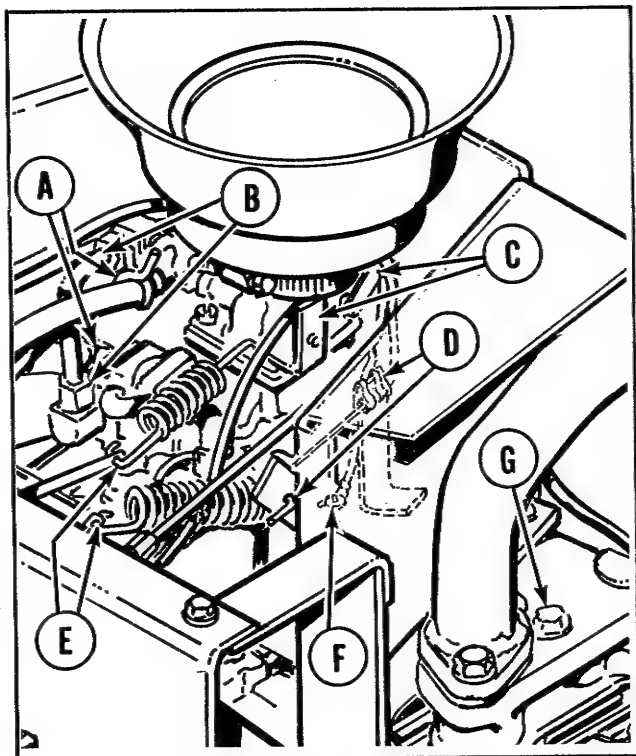

Figure 40. Engine viewed from right side of tractor.
3. See figure 40. Disconnect the two fuel hoses (A) at the carburetor and fuel pump and the fuel line (B) between the carburetor and fuel pump.
4. Disconnect the choke cable (C) at the carburetor and the speed control cable (D) and the two governor springs (E) at the governor.
5. Remove screw (F) which holds the ground wire from the breaker point box to the manifold.
6. Use a 9/16" wrench to remove the two manifold mounting cap screws (G) from the manifold.